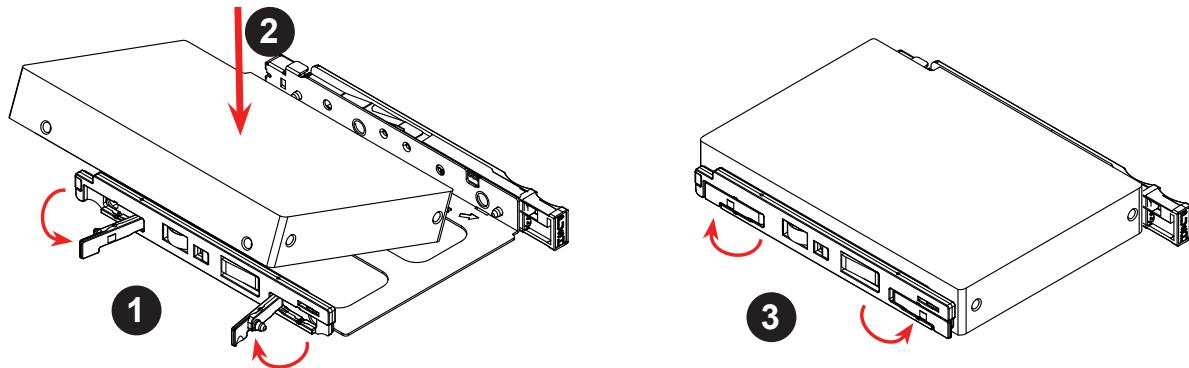

Figure 3-7. Mounting a Drive in a Carrier
2. Insert a drive into the carrier with the PCB side facing down and the connector end toward the rear of the carrier. Insert the drive at an angle as shown in Figure 3-7. Verify that the mounting holes on the drive align with the mounting holes on the carrier.